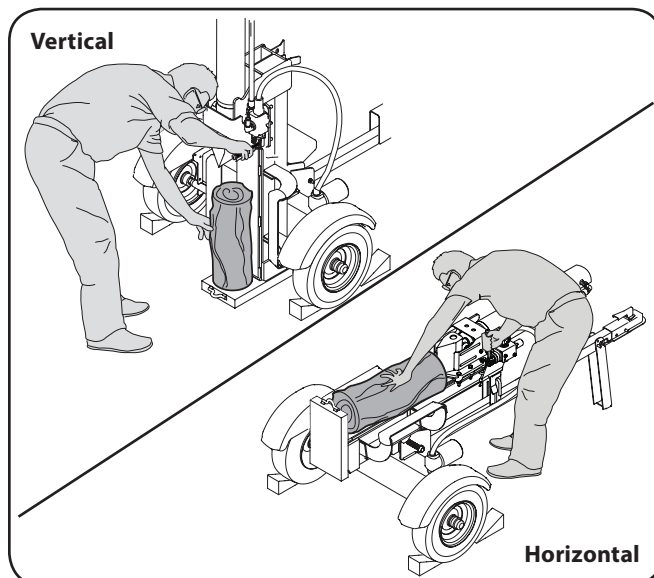

Figure 5-1
2. Block the front and back of both wheels. See Figure 5-1.
3. To stabilize the log, place your left hand on the side of the log opposite the beam as shown in Figure 5-1.